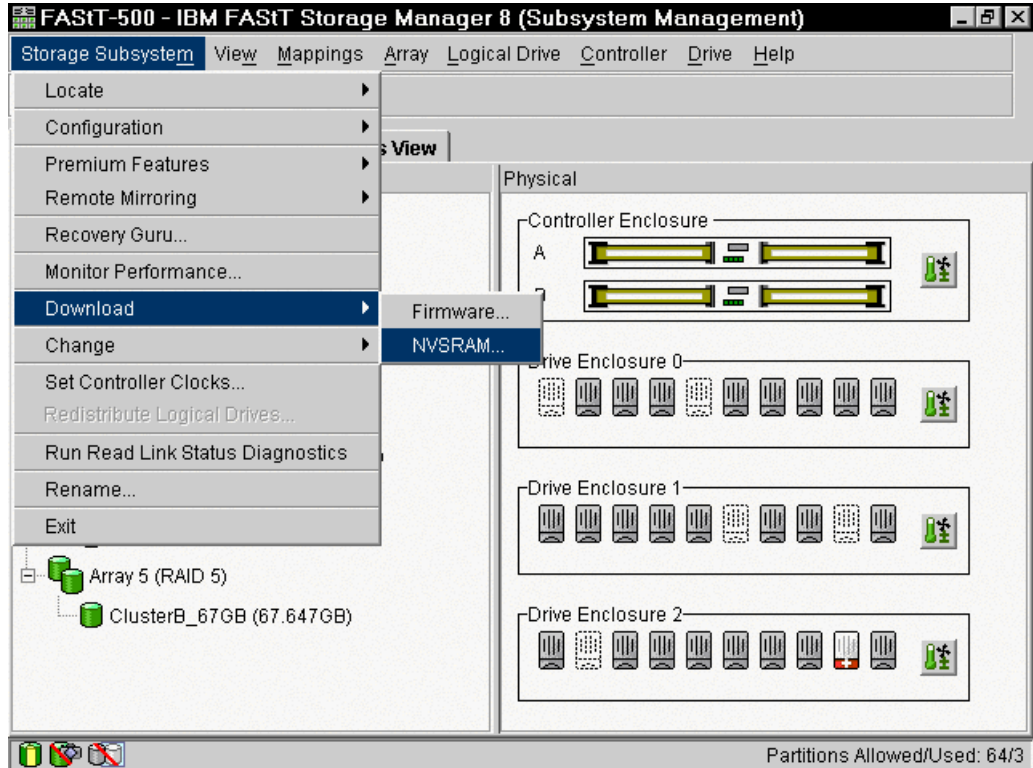

Figure 7-12 Downloading NVSRAM
- a. Click **Storage Subsystem-> Download-> NVSRAM**. See Figure 7-12.